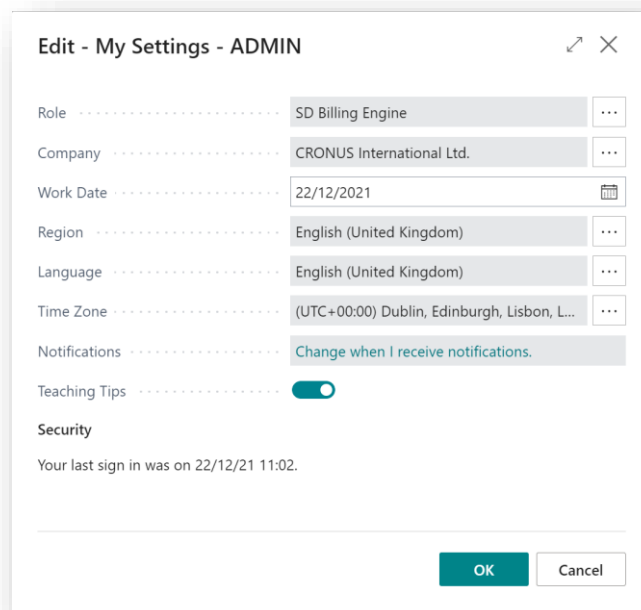

Figure 4-9
5. The **SD Billing Engine** role should now be displayed in the **Role** field (Figure 4-9).